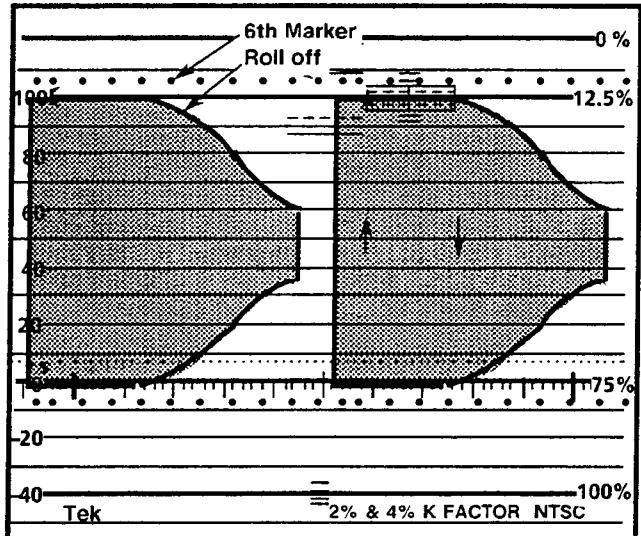

Fig. 5-19. Adjusting for best flat response.
- e. **ADJUST** — C195 (CH-A Comp.) for flat response at 6 MHz on the test oscilloscope. See Fig. 5-19.